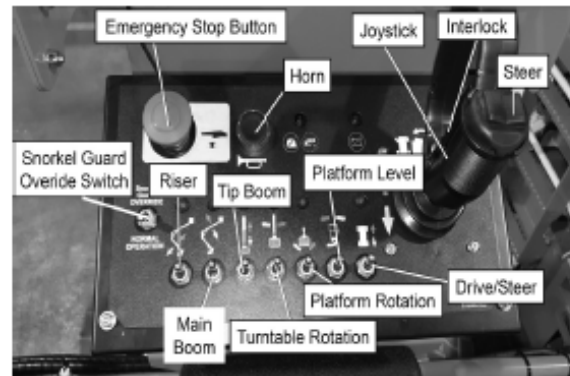

Figure 8.17 – Upper Controls
3. Twist the emergency stop button clockwise at the upper controls (refer to Figure 8.17).
Operate the horn switch (refer to Figure 8.17) to ensure that it sounds to warn personnel in the area.